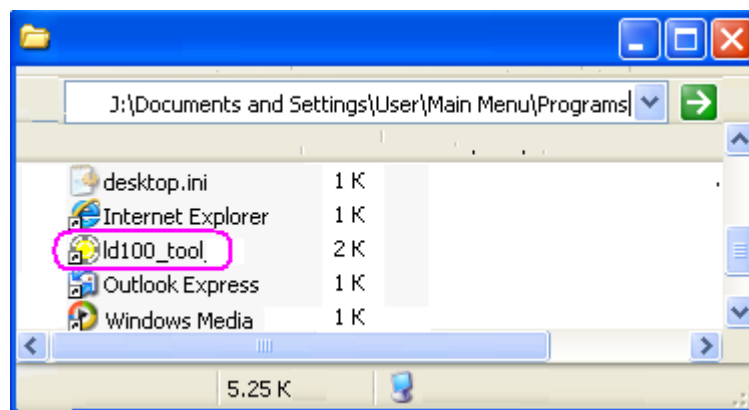

Fig.16 Running ld100\_tool at the user log on.
- Place this link in the “\Documents and Settings\User\Main Menu\Programs\Startup” directory (Fig.16);